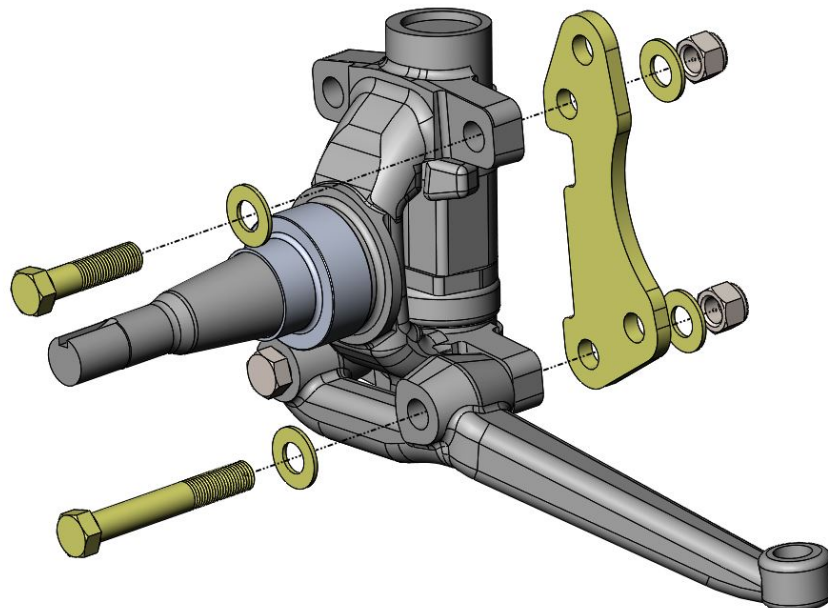

Figure 2 – Secondary Caliper Bracket Installation (Driver Side Shown)
6. Position the Secondary Caliper Mounting Bracket against the spindle. Using a 7/16"-20 x 1-3/4" Grade 8 Hex Head Bolt in the upper hole and the 7/16"-20 x 3" Grade 8 Hex Head Bolt in the lower hole (which is also the steer arm mounting location). When installing the bolts, use a 7/16" Flatwasher on both sides along with a 7/16"-20 Nyloc Nut on each bolt. With the nuts installed, torque these bolts along with the OE bolt used in the forward steer arm to 75 ft/lbs. This can be seen in Figure 2 below.